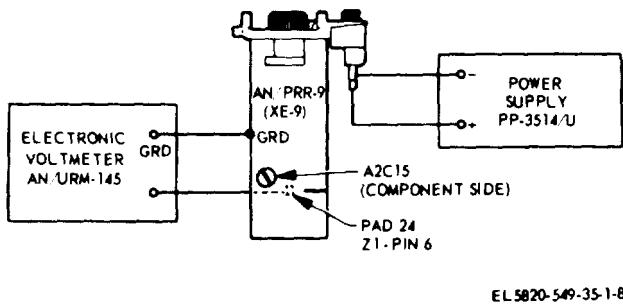

Figure 3-4. AN/PRR-9(XE-9) local oscillator alignment, test setup.
- a. Connect the equipment as shown in figure 3-4.